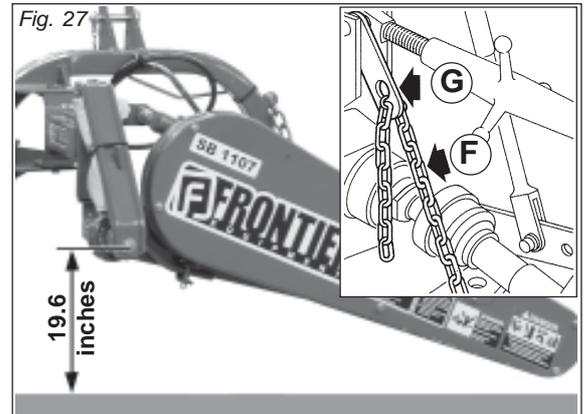

Fig. 27
- Using chain (F, Fig. 27), adjust the height of the sickle bar attachment with respect to the tractor. Attach the appropriate link to the special plate hole (G, Fig. 27). Adjust the height of the mower on the basis of the height shown in Figure 27. Mark the link used so that the same position may be used each time the sickle bar is fitted to the tractor.